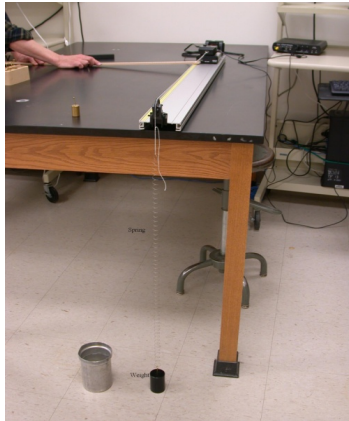

Figure 5: Work done by a spring apparatus.
11. Replace the mass with a spring. Stretch the spring and connect one side of it to a 1kg weight placed on the floor as shown in Figure 5. Please remember to hold track and cart in place. Make sure that the stretched spring is completely vertical.